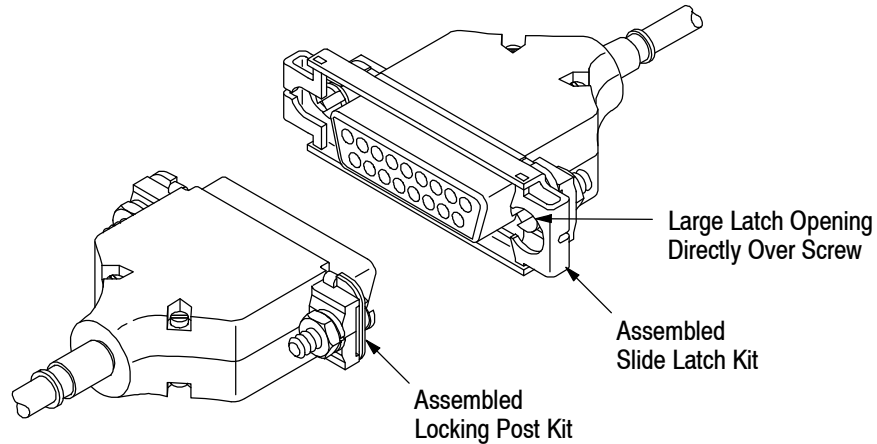

Figure 6
4.1. With Slide Latches (See Figure 6)